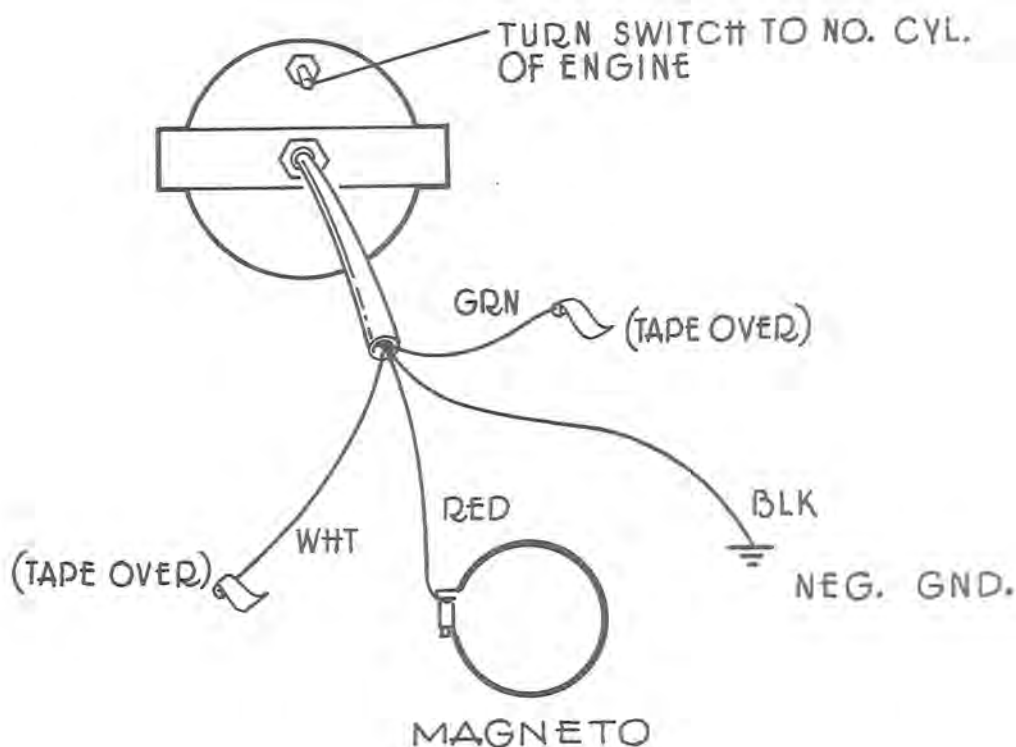

Figure 6-4. Tachometer Connection
4. Tachometer - (See figure 6-4) The Chaparral snowmobiles are furnished with a negative ground. For this installation, the red wire of the Tachometer is to be connected to the Magneto, and the black wire to ground. The white and green wires are not used in this installation, and must be taped over. The purpose of these wires is to provide for internal illumination of the Tachometer, but should not be used on these machines.